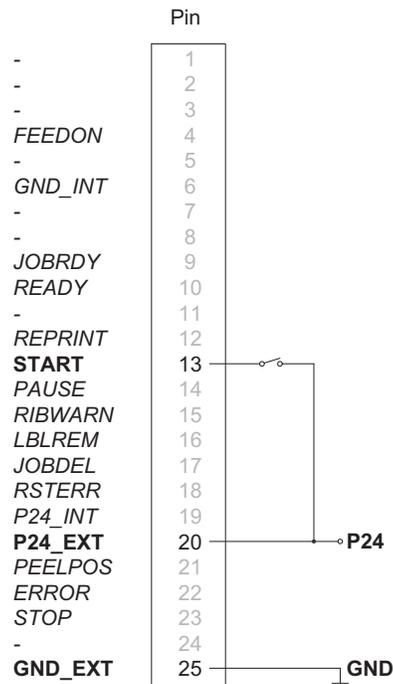
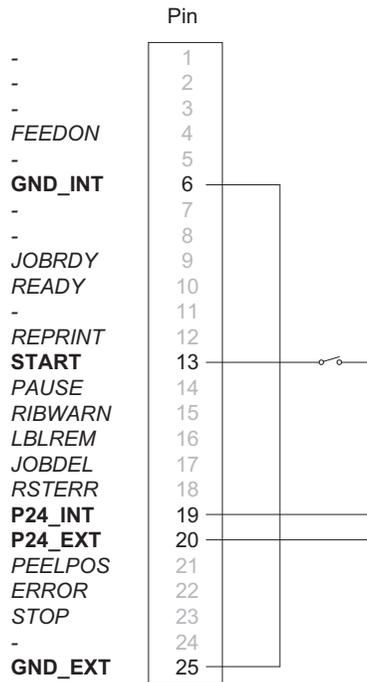

Figure 55: Operation with external voltage supply
Figure 56: Operation using the internal voltage
- External circuit as shown in Figure 55 / Figure 56